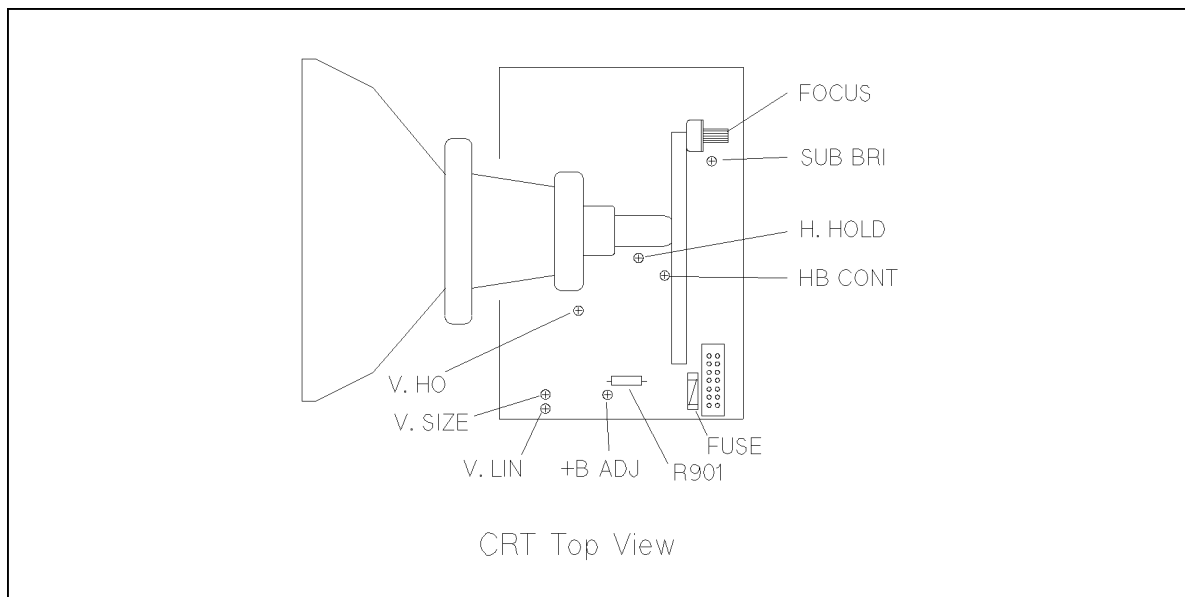

Figure 3-19. CRT Adjustment Location
5. Connect the high lead to the end of R901 closest to the fuse, and low lead to the HP 4286A chassis. The component is shown in Figure 3-19.